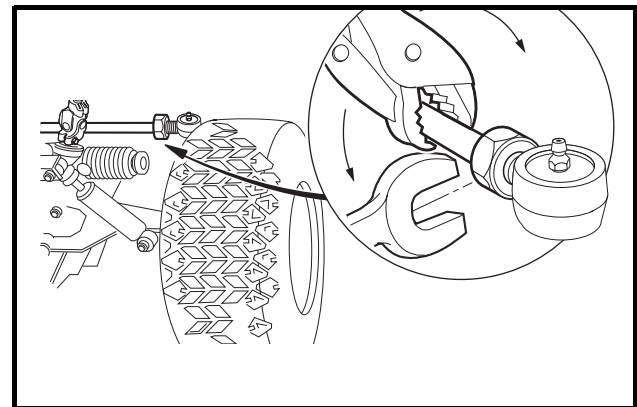

Figure 7-18 Adjust Toe-In
6. If adjustment is necessary, loosen the jam nut on each tie rod ball joint and rotate the tie rod to increase or decrease toe-in (**Figure 7-18, Page 7-14**). **See following CAUTION.**